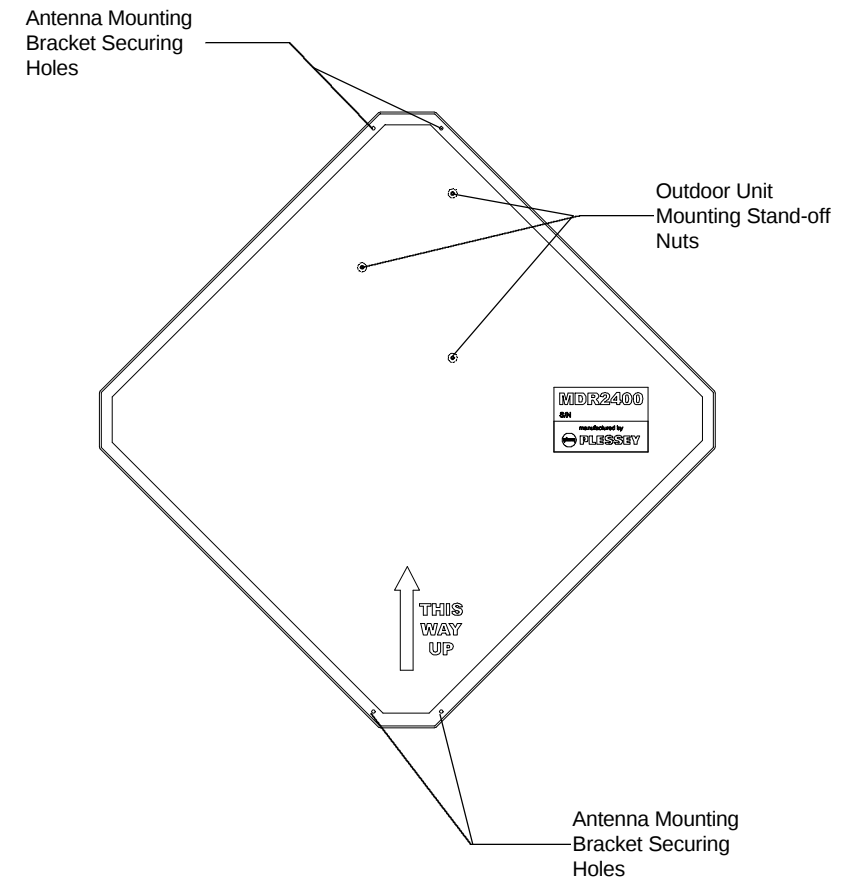
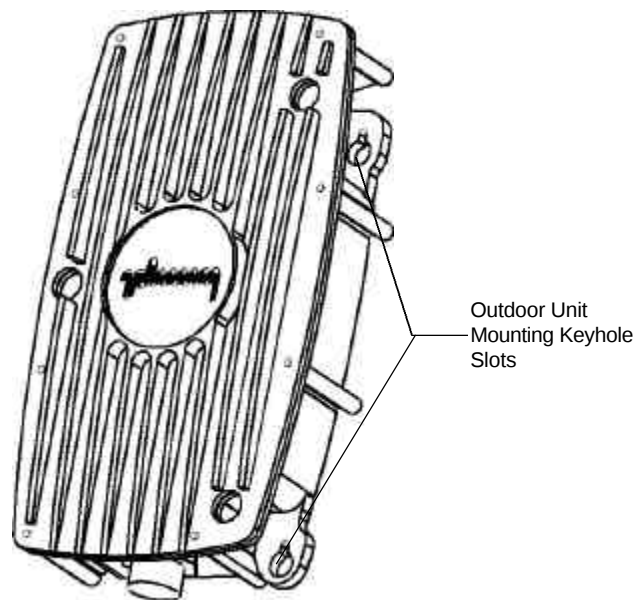

Figure 6. μLink -C Antenna.
Figure 7. μLink Outdoor Unit.
| 1.   | Secure the C-shaped mounting bracket to the Antenna using the two securing screws and bolts (see Figure 6).                 |
See Figure 6 and Figure 7.
| 1.   | Loosen the three OU securing stand-off nuts located on the Antenna (see Figure 6).                   |
| 2.   | Position the OU on the stand-off nuts through the three (3) key hole slots on the OU (see Figure 7). |